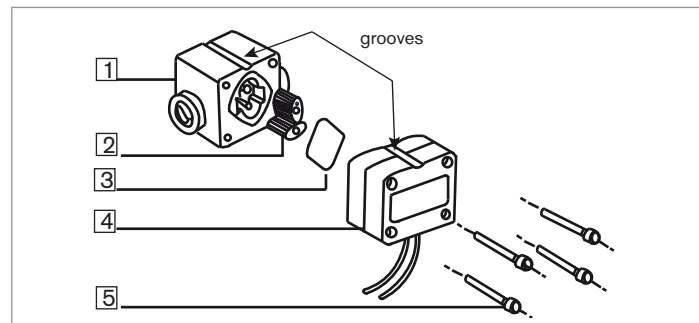

Fig. 7: Exploded view of the device
- Unscrew the 4 screws (mark 5 Fig. 7) and remove the cover including the electronic module (mark 4 Fig. 7).
- Remove the seal (mark 3 Fig. 7).
- Remove the rotors (mark 2 Fig. 7).
→ Put the seal (mark 3 Fig. 7) in its groove.
→ Put the cover (mark 4 Fig. 7) on the housing, aligning the groove on the cover with the one of the housing.
→ Tighten the 4 screws (mark 5 Fig. 7), carefully to avoid damages to the housing, and in an alternating pattern at the following torque: